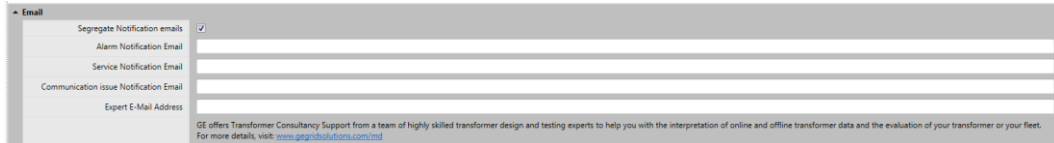

Figure 3-64: Email – Segregate Notification emails
- **Segregate Notification emails:** allows the user to define the recipients of the emails based on the notification type. Select the checkbox to specify the three types of notification address as shown in Figure 3-64.